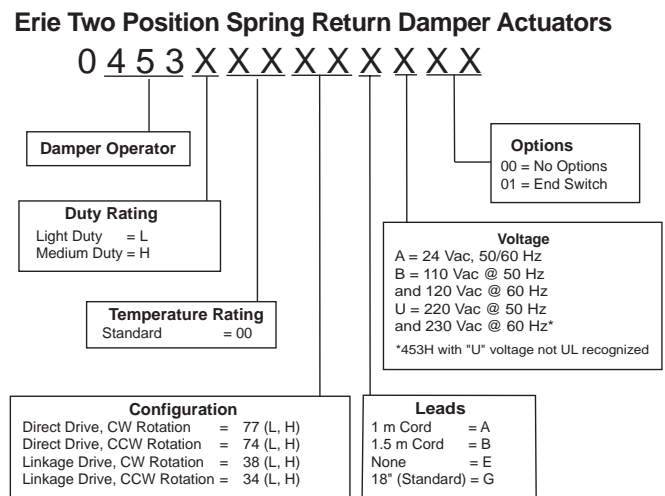

Figure 1 Selection Chart.
**NOTE:** For complete part number configuration, see Part Numbering System in Figure 1.